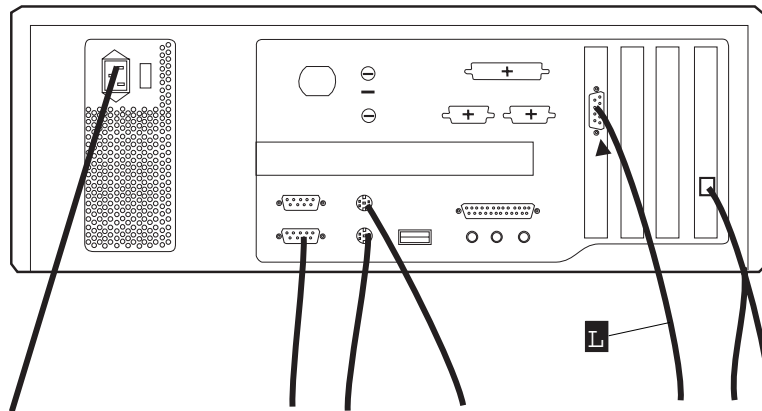

Figure 6-1. Display Connection to the NAS
3. At the rear of the NAS disconnect the display cable **L** (see Figure 6-1).
2. At the rear of the Nways Switch administration station, connect the display signal cable **L** (see Figure 6-1).